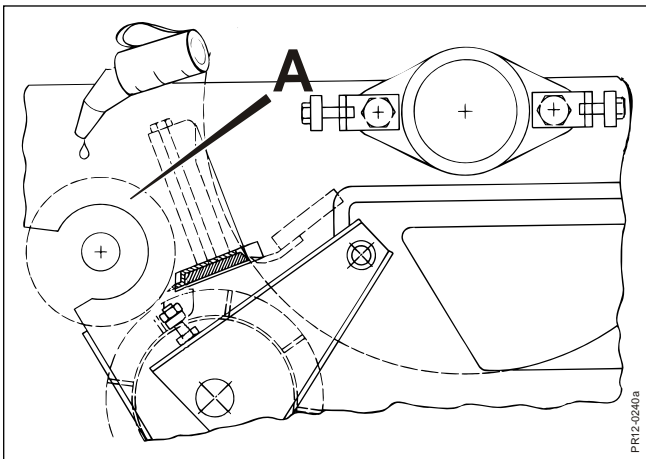

Fig. 7-8
- Fig. 7-8** The upper rear feed roller, the smooth roller **A**, should be secured against formation of rust on the surface. If the machine is not in use for more than one day, the whole surface should be lubricated with some oil.